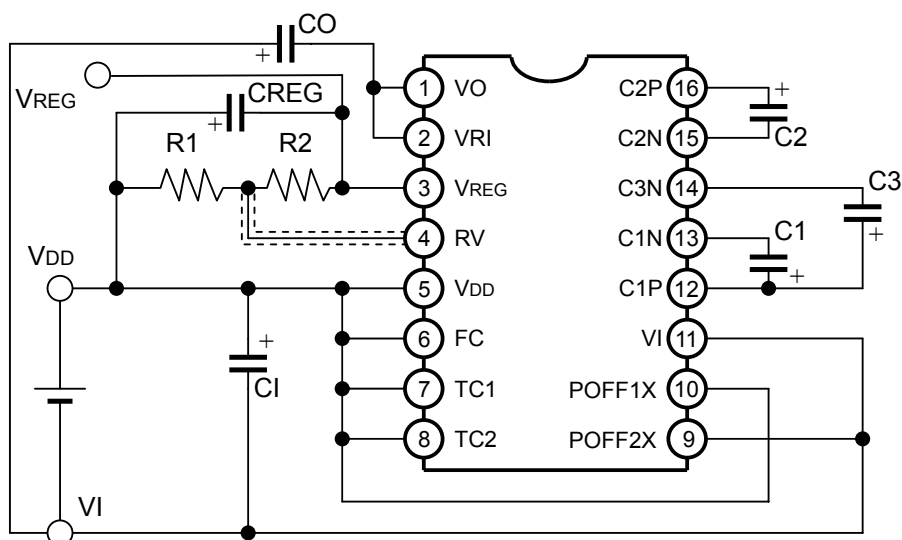

Fig.9.1 Quadruple boosting + regulator connection example
Fig.9.1 shows a “quadruple boosting + regulator” connection example that is standard in S1F76540. Perform quadruple boosting in the negative direction for input voltage V_I , and generate the stabilized voltage in the V_{REG} pin.
- ◇ Fig.9.1 Setting conditions